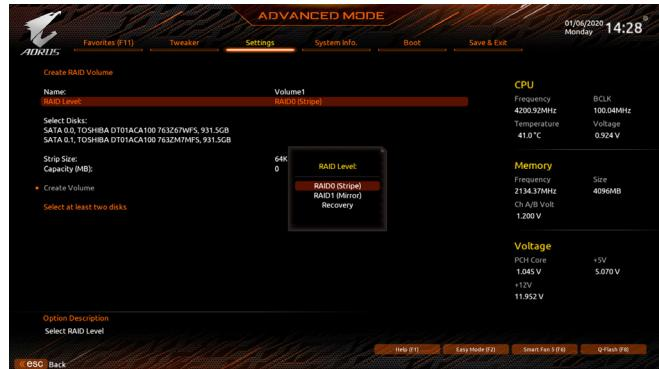

Figure 8
On the Intel(R) Rapid Storage Technology menu, press <Enter> on **Create RAID Volume** to enter the **Create RAID Volume** screen. Enter a volume name with 1~16 letters (letters cannot be special characters) under the **Name** item and press <Enter>. Then, select a RAID level (Figure 8). RAID levels supported include RAID 0, RAID 1, RAID 10, and RAID 5 (the selections available depend on the number of the hard drives being installed). Next, use the down arrow key to move to **Select Disks**.